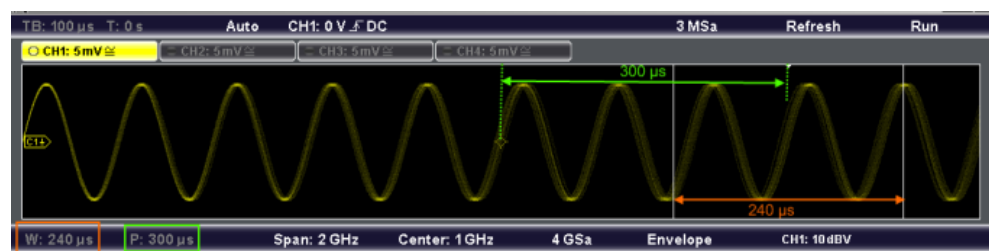

Fig. 8-1: Width and position of the time base extract for FFT calculation
The display can be restricted to the results for a certain time base extract and to a specified frequency range. The time range is indicated by white lines in the Y(t)-diagram (see also figure 8-1).
2. Define the time base extract for which the FFT is to be calculated and displayed. The extract is defined by its width and position (see figure 8-1).
1. Define the time base extract for which the FFT is to be calculated and displayed. The extract is defined by its width and position (see figure 8-1).